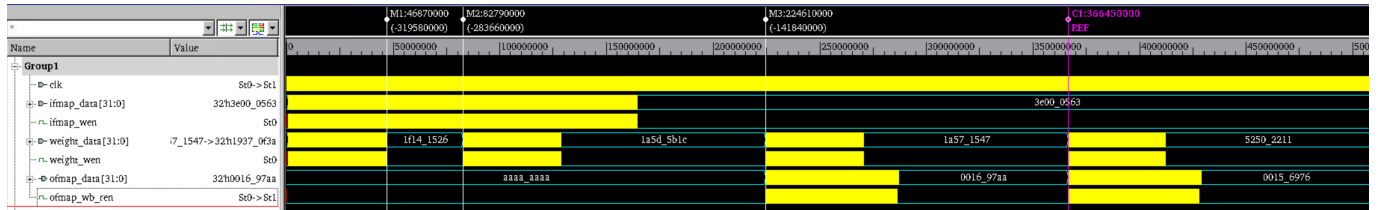

Figure 4: Verilog conv2_x simulation waveform.
1. Look at the NCSim waveform of your HLS design and compare to the Verilog waveform (Figure 4), do you see a similar double buffer read/write behavior?
In Figure 4, the first marker marks the end of initial loading of inputs and weights, and the following markers mark when each tile has finished processing, i.e. when banks are switched and new weights start to load. In your HLS simulation, you should see similar boundaries by looking at `input_serial_rsc_dat`, `weight_serial_rsc_dat` and `output_serial_rsc_dat` signals. Otherwise, double buffer is not correctly inferred for you.